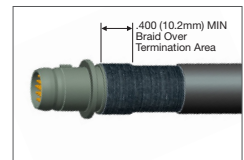

Fig. 2
2. Push braid forward over adapter retention lip to the adapter incline point (or .4" [10.2mm] minimum braid length). Milk braid as required to remove slack and ensure a snug fit around the shield termination area (Figure 2).